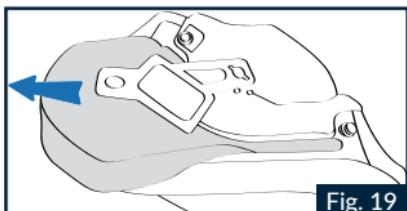

Fig. 19
2.2 Slightly remove the inner expanding foam padding from the fabric lining of the left cheek pad (Fig.19).
5.1 Gently insert the inner expanding foam padding inside the left cheek pad fabric lining (Fig.19). Carefully stretch the padding while checking that there are no creases in the cheek pad fabric lining.